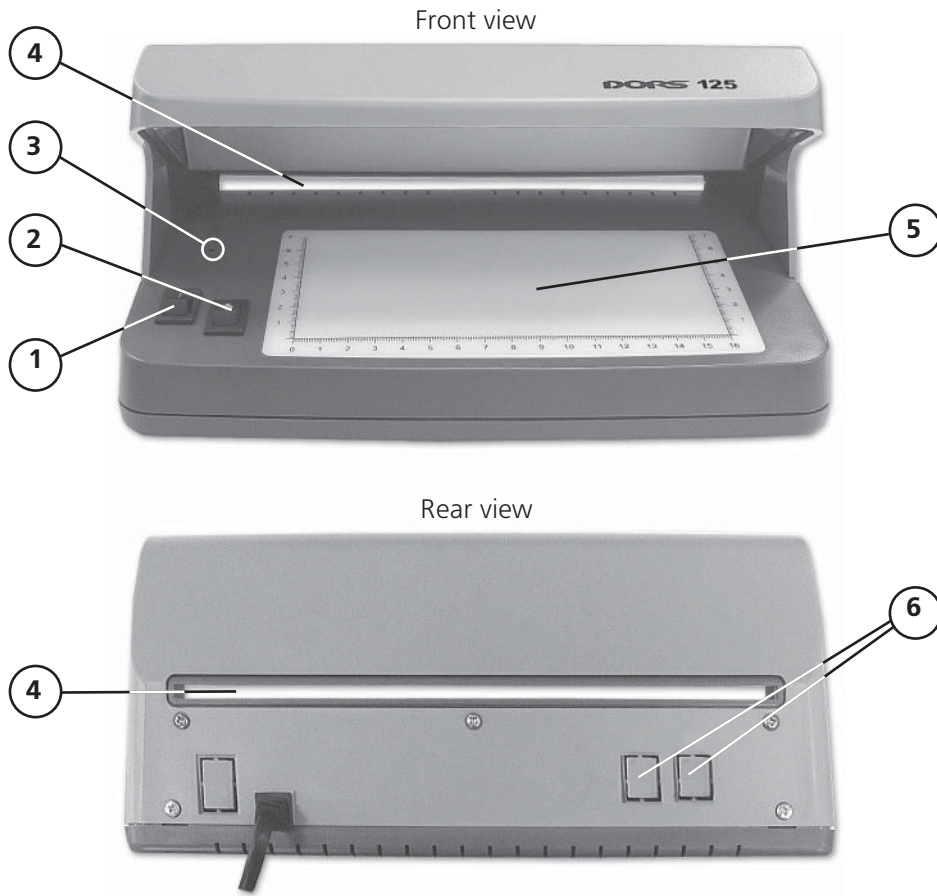
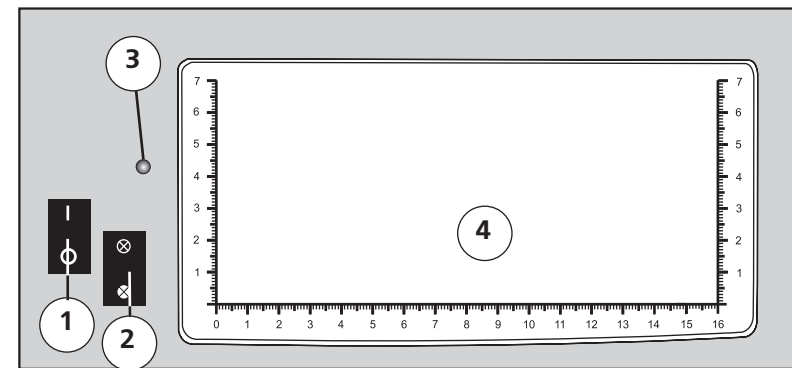

Fig. 1
Fig. 2
1. Connect the detector to the wall outlet (220V, 50 Hz). Power switch indicator (fig. 1, pos. 3) will switch on. Switch the detector on with the Power switch on the back side of the detector (fig. 1, pos. 1) – the viewing zone (fig. 2, pos. 4) lights blue or white, depending on the switch position "UV/white light".
2. Place one or several banknotes at the front panel of the detector within the viewing zone (fig. 2, pos. 4).
3. Using the UV/white light switch on the front panel (fig. 2, pos. 2) choose necessary operation mode: